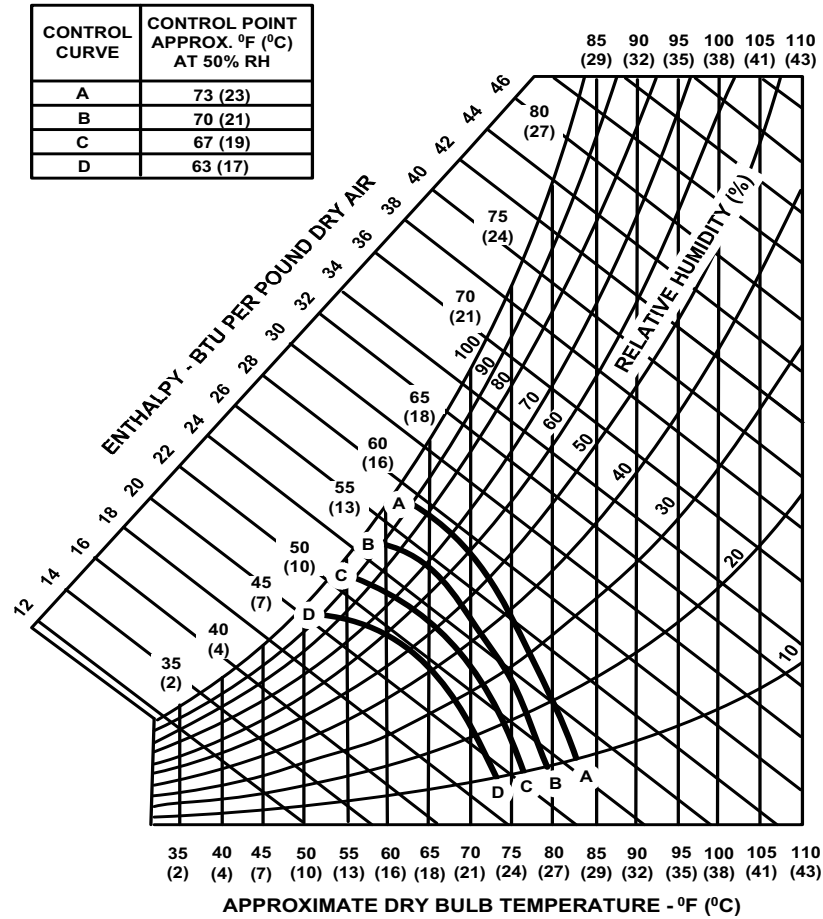

FIGURE 4 - ENTHALPY SETPOINT ADJUSTMENT
The enthalpy setpoint may now be set by selecting the desired setpoint shown in the Enthalpy Setpoint Adjustment Figure 4. Adjust as follows:
- For a single enthalpy operation carefully turn the setpoint adjusting screw (found on the damper control module) to the "A", "B", "C" or "D" setting corresponding to the lettered curve of the Enthalpy Setpoint Adjustment Figure 4.